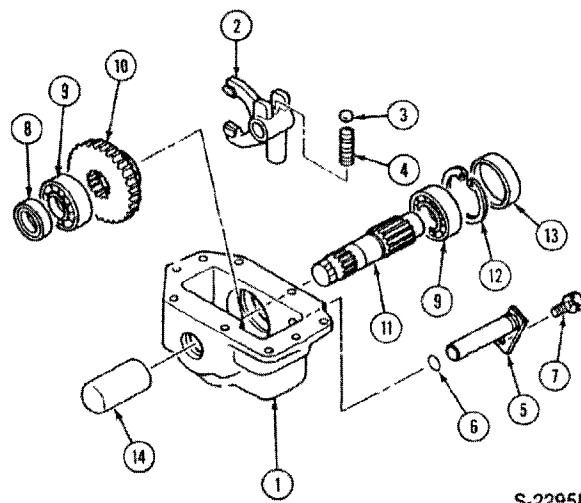

Figure 15
- Remove the mid-mount PTO gear box (1), Figure 15.
Reference — Figure 15
Reference — Figure 15.